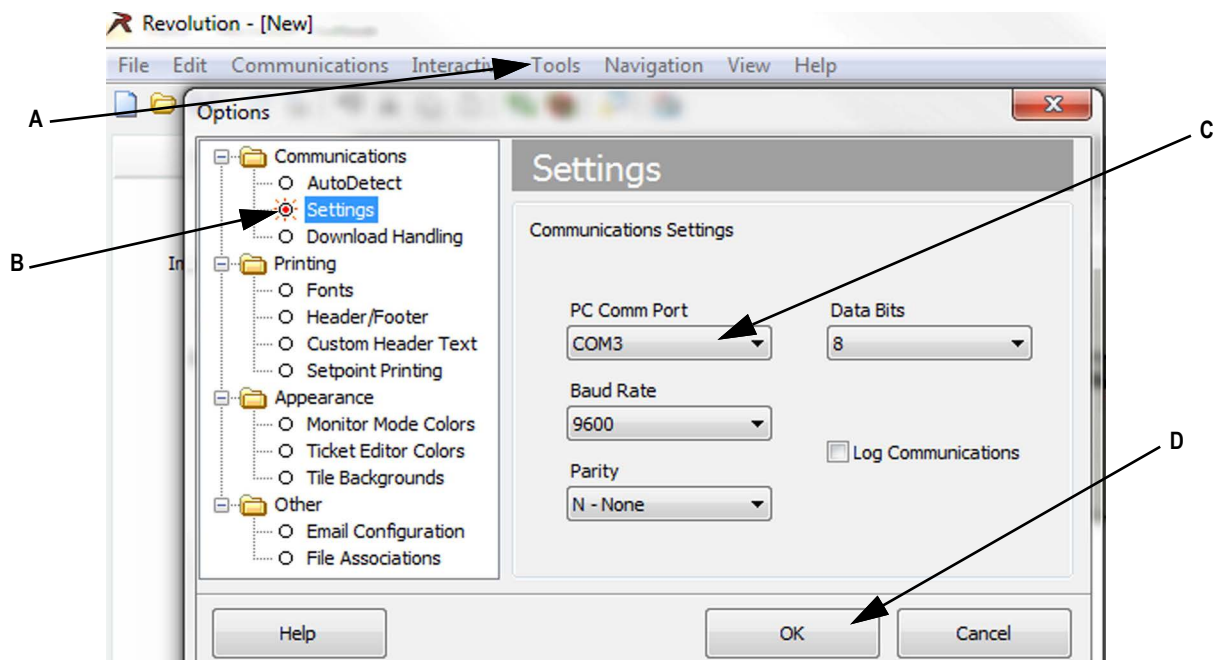

Figure 4-47. Options Screen to Select Comm Port for USB
8. Go to Tools/Options (Figure 4-47 A) and select **Settings** (B), then choose the **PC Comm Port** (C) that will be used to connect the USB cable. (See Note above)
9. Click **OK** (Figure 4-47 D).